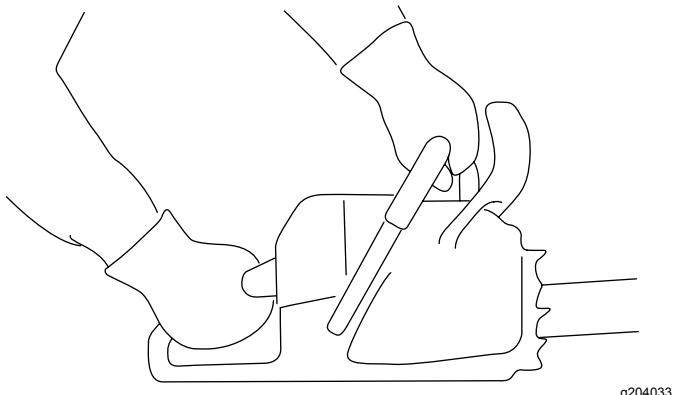

Figure 12
1. Grip the chain saw with 2 hands, with your left hand on the front handle and your right hand on the rear handle as shown in Figure 12.
1. Grip the chain saw as shown in Figure 12.
3. Grip the chain saw as shown in (Figure 12).